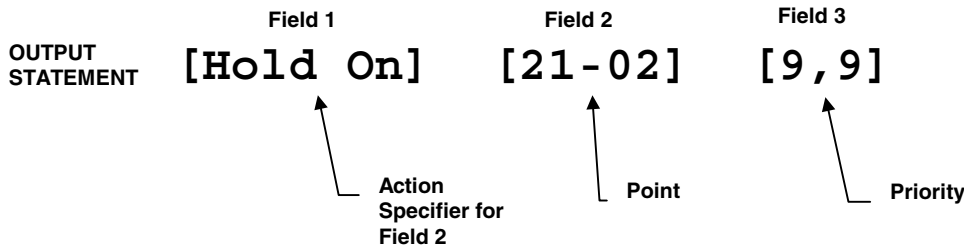

Figure 8-32
In Figure 8-32, point 23-02 will HOLD ON (IF the Input is true) at a Set priority of 9. This Output statement will maintain control of this point until another output statement with an equal (9) or greater Set priority takes over. The possible ranges for a priority are from 1 to 15, 1 being the highest and 15 being the lowest priority. By default, the priority is 9. When changing a priority, press Function and then press <►> to place the cursor under the Set priority. Use <Next> and <Previous> to scroll through the priorities. Press <►> to place the cursor under the Reset priority. Use <Next> and <Previous> to scroll through the priorities and then press <Enter> to program the priorities selected.